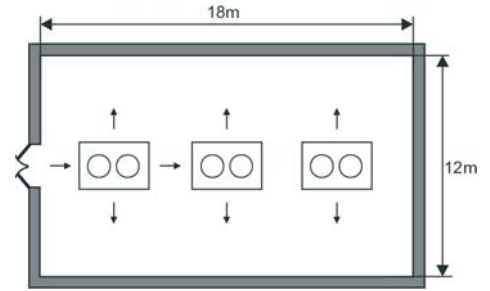

Fig. 5.2
3. Based on the cold room dimensions (see Fig. 5.2), we need three unit coolers;